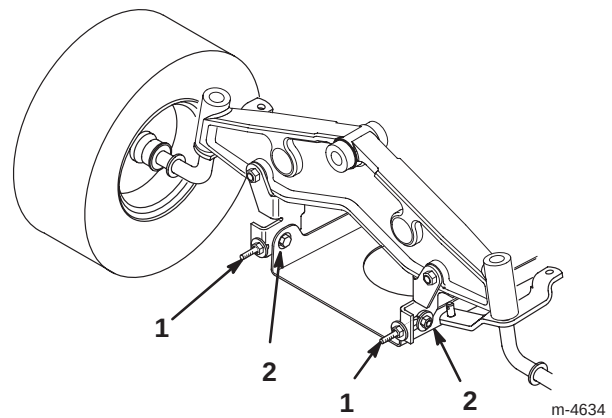

Figure 15
10. To adjust the front-to-rear blade slope, loosen the front pivot plate mounting bolts slightly (Fig. 15).
11. Rotate the locknuts on the eyebolts to change the adjustment (Fig. 15). To raise the front of the mower, tighten the eyebolt locknuts. To lower the front of the mower, loosen the eyebolt locknuts.
13. When the front-to-rear slope is correct, tighten the pivot plate mounting bolts (Fig. 15).